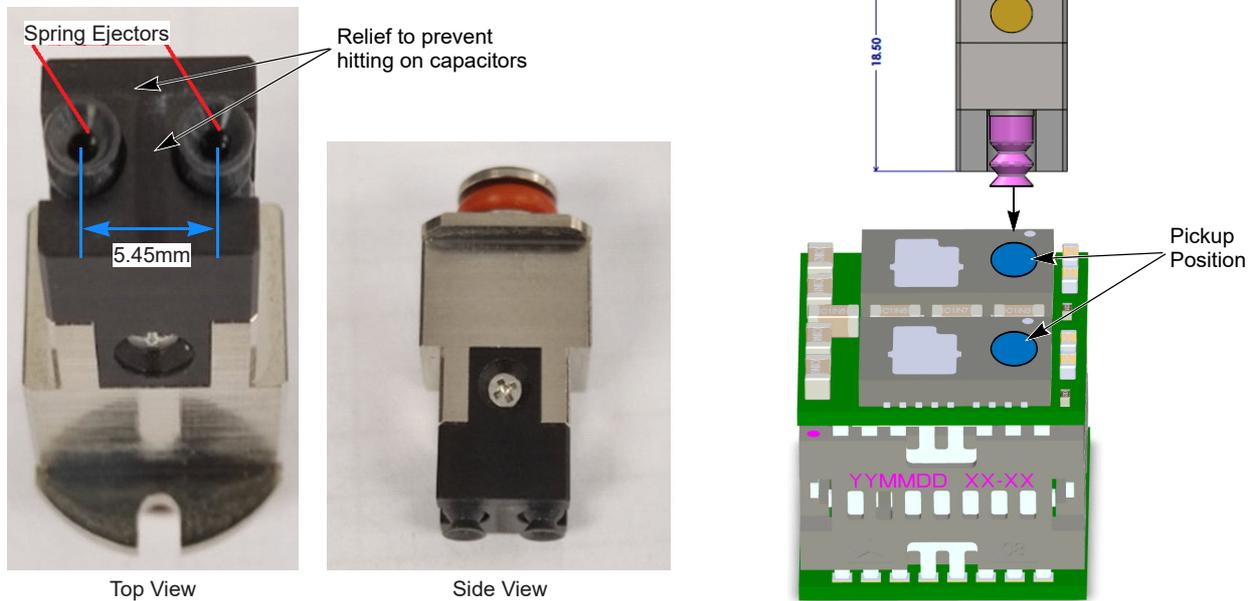
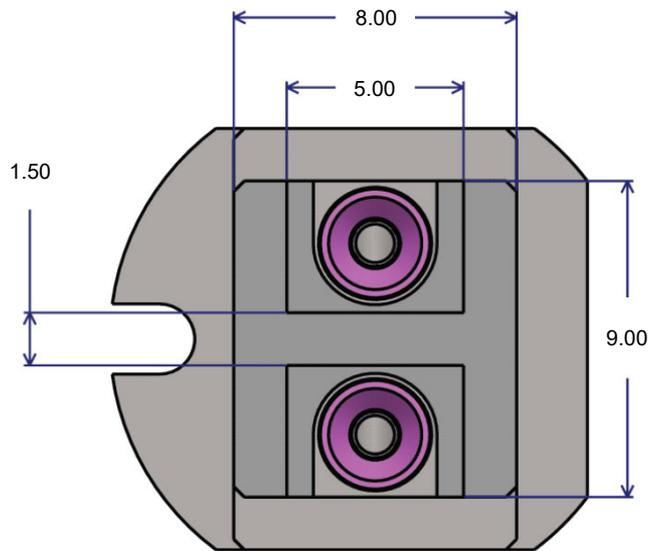

Figure 4. Suggested Power Tower Pickup Tool
Figure 8. Suggested Power Tower Pickup Tool – Bottom View
- Use suggested Power Tower pick and place pickup tool. See Figure 4 through Figure 8.